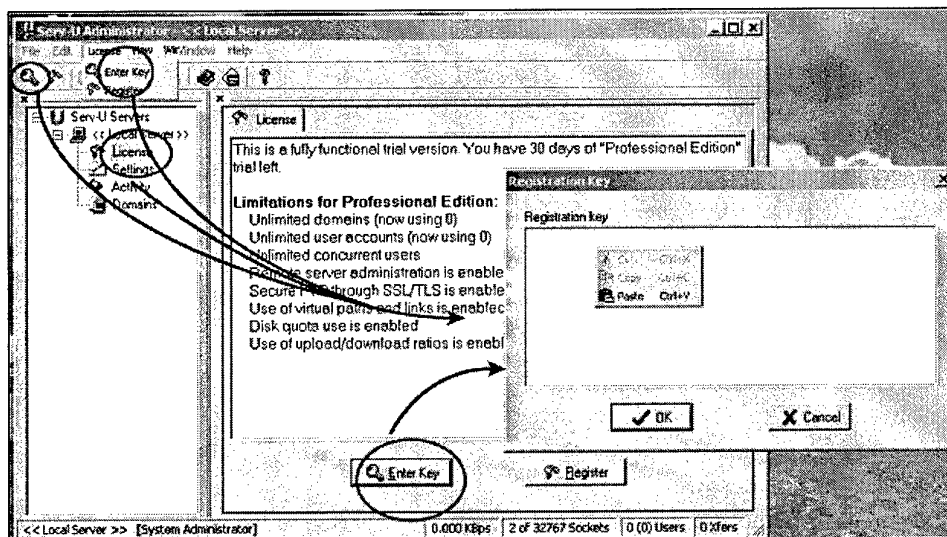

Figure 90 The different ways in which the registration key can be entered into the Serv-U setup Wizard.
the key icon (🔑), or click on the Licence drop down menu, and click on Enter Key. If the current installation is an upgrade and the setup wizard has not been spawned, then spawn Serv-U's main window by clicking on the Serv-U icon (U) in the bottom right-hand corner of the screen and follow one of the approaches just listed. Then paste the key into the registration window and click on the OK button. Figure 90 shows these details.